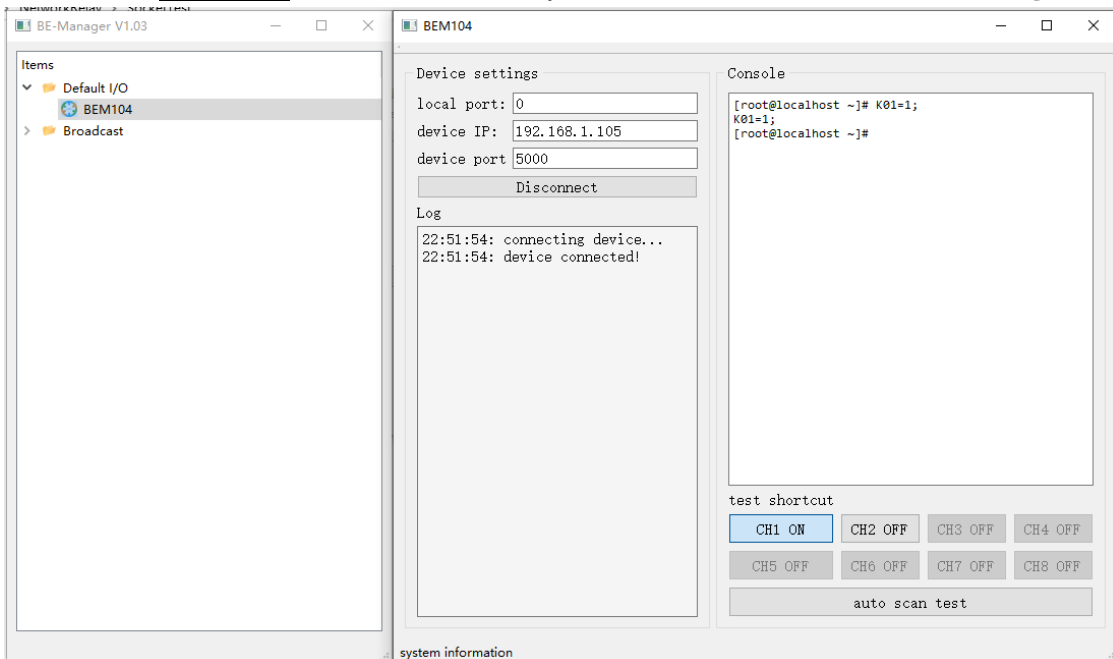

Fig.1.3
3. Click "**Connect**" button, and wait for module connected. Then, it is able control the relay module. Click "**CH1 OFF**" button, and the relay channel 1 will be switched on. See **Fig.1.3**